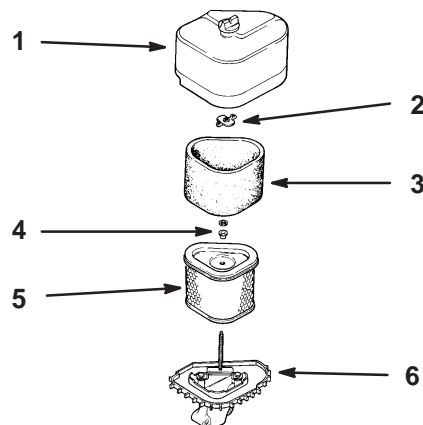

Figure 25
3. Unscrew the cover nut and remove the air cleaner cover (Fig. 25).
4. Remove the air cleaner assembly (Fig. 25).